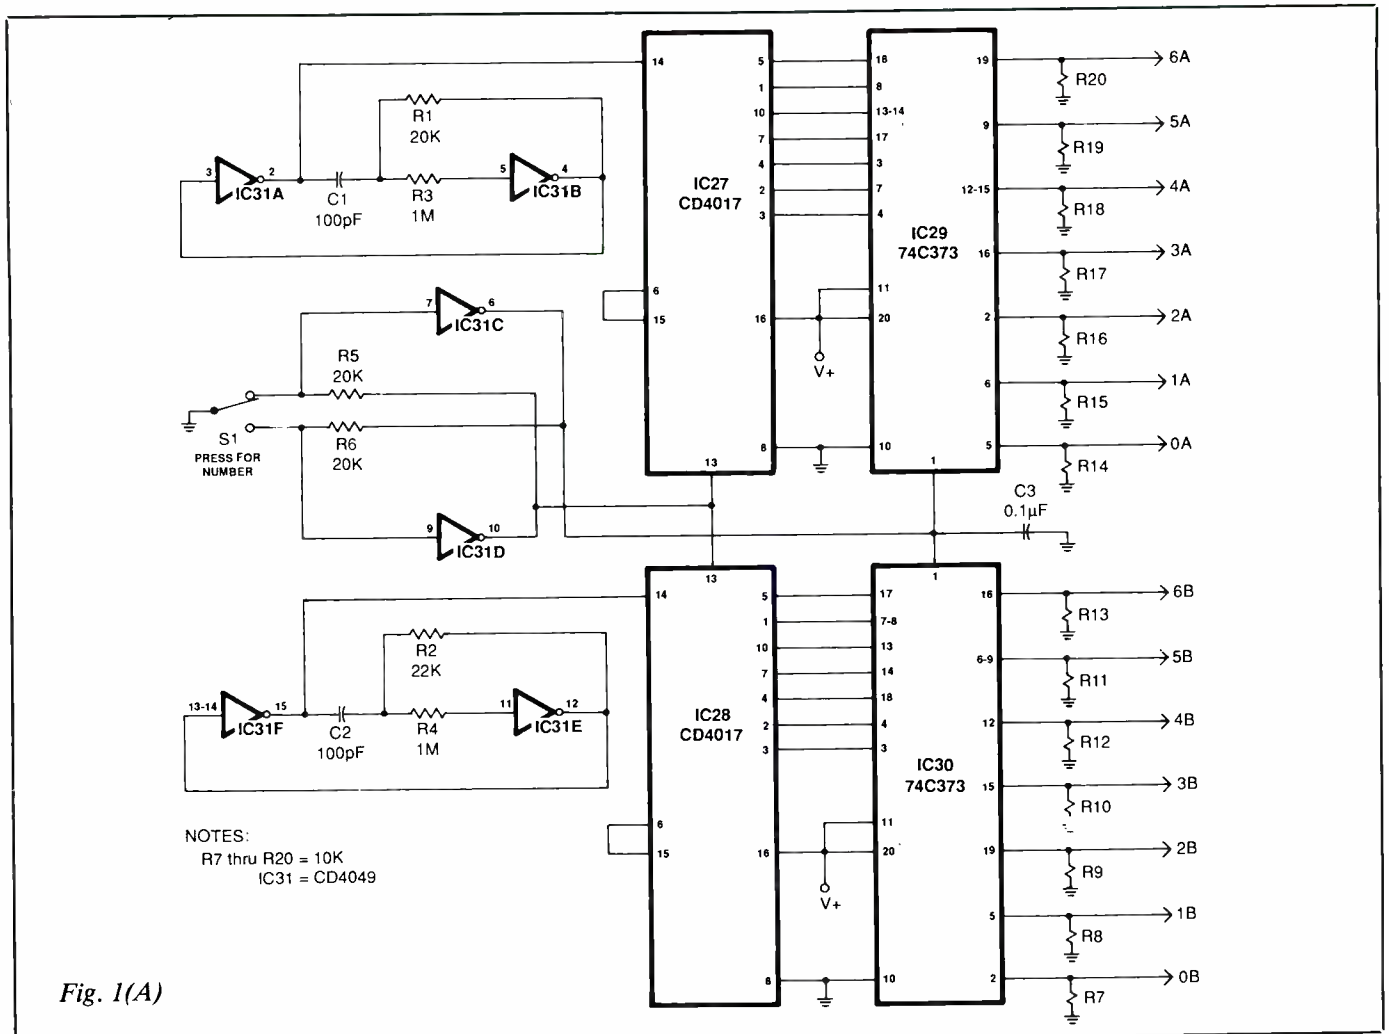

Fig. 1(A)
Fig. 1. Complete schematic diagram is shown here in three parts: (A) dual oscillator/counter/driver; (B) gate/flip-flop/LED system; and (C) power distribution and capacitor bypassing.